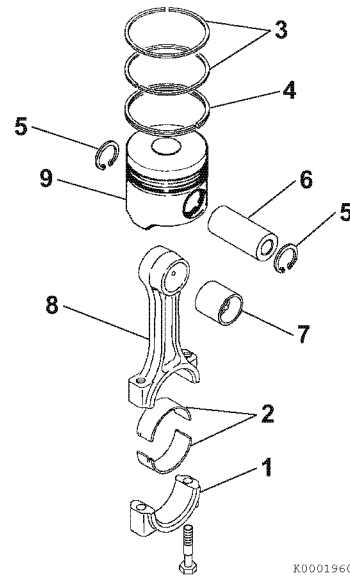

Figure 6-81
2. If removed, install a new wrist pin bushing (7, **Figure 6-81**) using a press and the appropriate service tool. Be sure to align the oil holes.
3. Reinstall one circlip (5, **Figure 6-81**) into the piston. Ensure the circlip is securely seated in the groove.